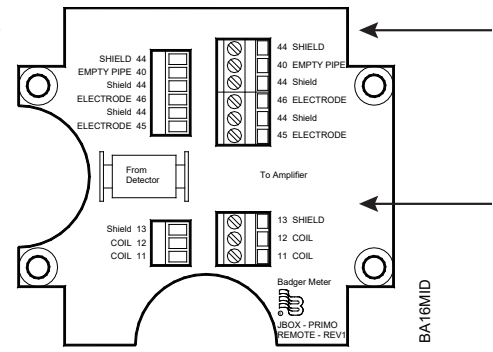

Figure 31: Cables to plugs
4. Connect the cables to the corresponding plugs on the left side of the board as shown in Figure 31.